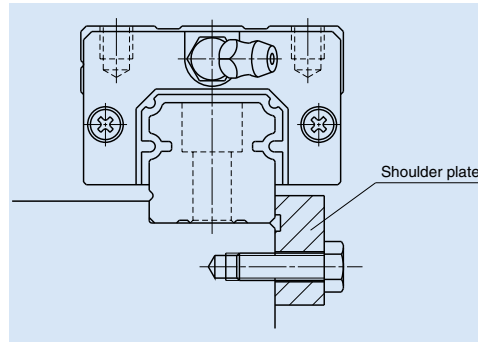

Fig. 10.13 Pressing the rail from sideways
- [1] Confirm that the rail is reference side rail, and the datum surface of the rail comes to face to face with the shoulder of the machine base. Keep the slides on the rail, and carefully place the rail on the machine base on its mounting surface. Loosely tighten the bolts. At this time, press the rail from sideways to make the rail tightly contact to the shoulder of the machine base. When using a shoulder plate, refer to **Table 10.4** for the bolt tightening torque (**Fig. 10.13**).